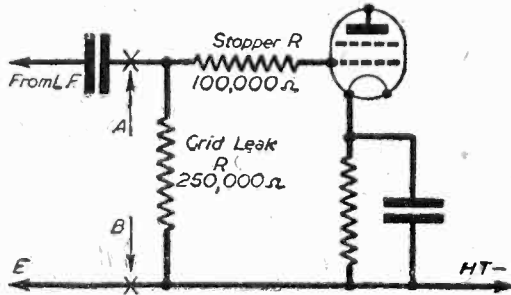

Fig. 2.—The correct method of wiring a grid-stopper resistor.
3. Two different connections for a grid-stopper resistor are shown in Figs. 2 and 3. Which is correct, and what is the objection to the use of that described as incorrect?
Of the two methods of connecting a grid-stopper resistor shown in Figs. 2 and 3, that shown in Fig. 2 is correct, and that in Fig. 3 is incorrect. Examination of Fig. 3 will show that, of the total audio-frequency voltage between points A and B, only that proportion which is developed across the 250,000-ohm grid leak is applied to the following L.F. valve.
Since the stopper resistor has a value of 100,000 ohms, it can be seen that only five-sevenths of the available audio-frequency voltage is applied between grid and cathode of the valve. In the case illustrated in Fig. 2, the whole of the A.F. voltage is fed to the valve, since there is no voltage drop across the stopper resistor — which does not carry any current, provided that the valve is correctly biased.